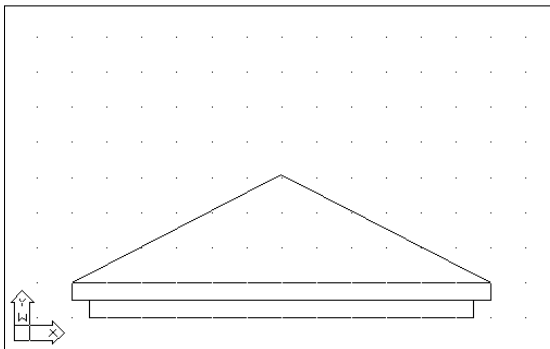

**Figure 5-5:** The final architectural drawing.
9. Save your drawing. It should look like Figure 5-5. Notice how the grid and snap settings facilitate the drawing process.